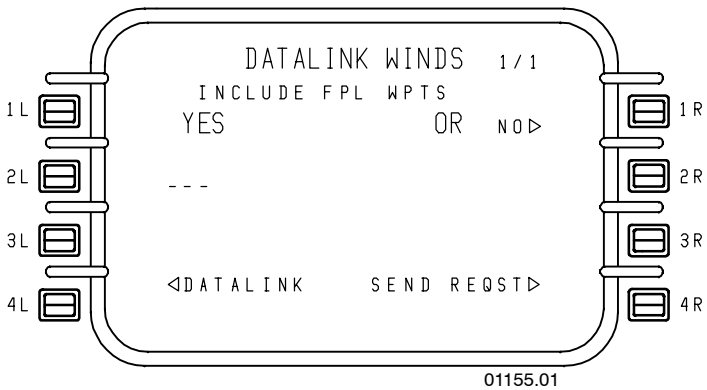

Figure 6-87
- **DATALINK WINDS 1/X** – Upon selection of the WINDS prompt (1R) on the DATALINK INDEX 1/X page, the DATALINK WINDS page is displayed. This is shown in Figure 6-87.